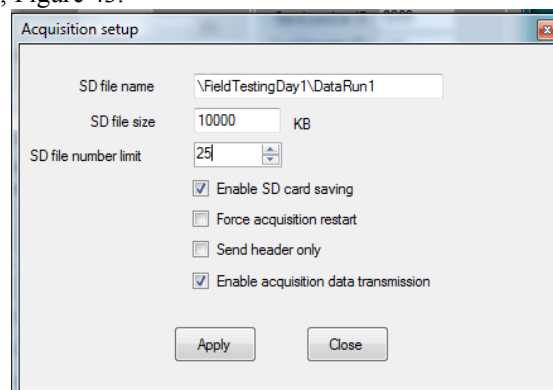

Figure 43 - Acquisition setup window
Selecting the “Acquisition settings” on the Setup submenu opens the Acquisition setup window, Figure 43.
3. SD file number limit – This is the total number of data files the user wants to write to the memory card for a given acquisition. The unit will write data files according to the SD file size and the total SD file number limit. For example, in Figure 43, DataRun1 file will have 25 files: DataRun1\_0 to DataRun1\_24, each is 23,000 KB big. Once the file number limit is reached, the unit will still be in acquisition mode and acquiring data but no more data files will be written to the memory card and the SD file num limit radio button on Figure 33 will indicate that this limit has been reached.